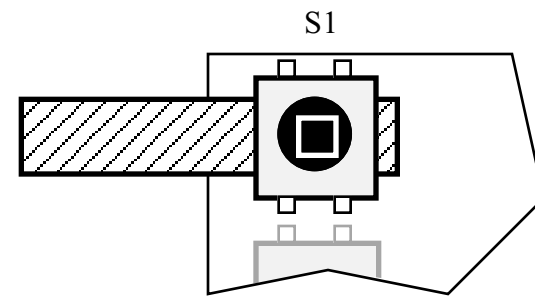

Figure 5-2
- Position push-button switch S1 on the top side of the board as shown in Figure 5-2, using the switch spacing tool to set the switch height. Make sure all four legs of the switch are centered in their holes, then gently push the switch until it is resting flush against the switch-spacing tool. (Caution: switch pins are fragile.) *Do not solder yet.*